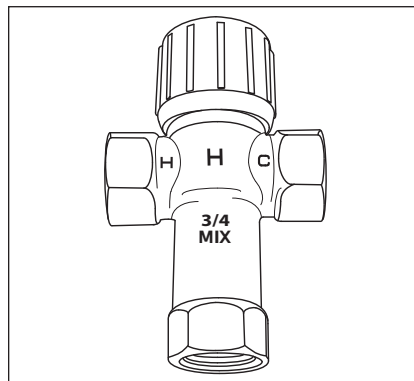

Figure 23 - Adjust Thermostatic Mixing Valves at each point-of-use to 120°F/49°C or lower.
**▲ WARNING! Higher temperatures increase the risk of scalding, but even at 120°F/49°C, hot water can scald (see page 4 and Figure 23).**